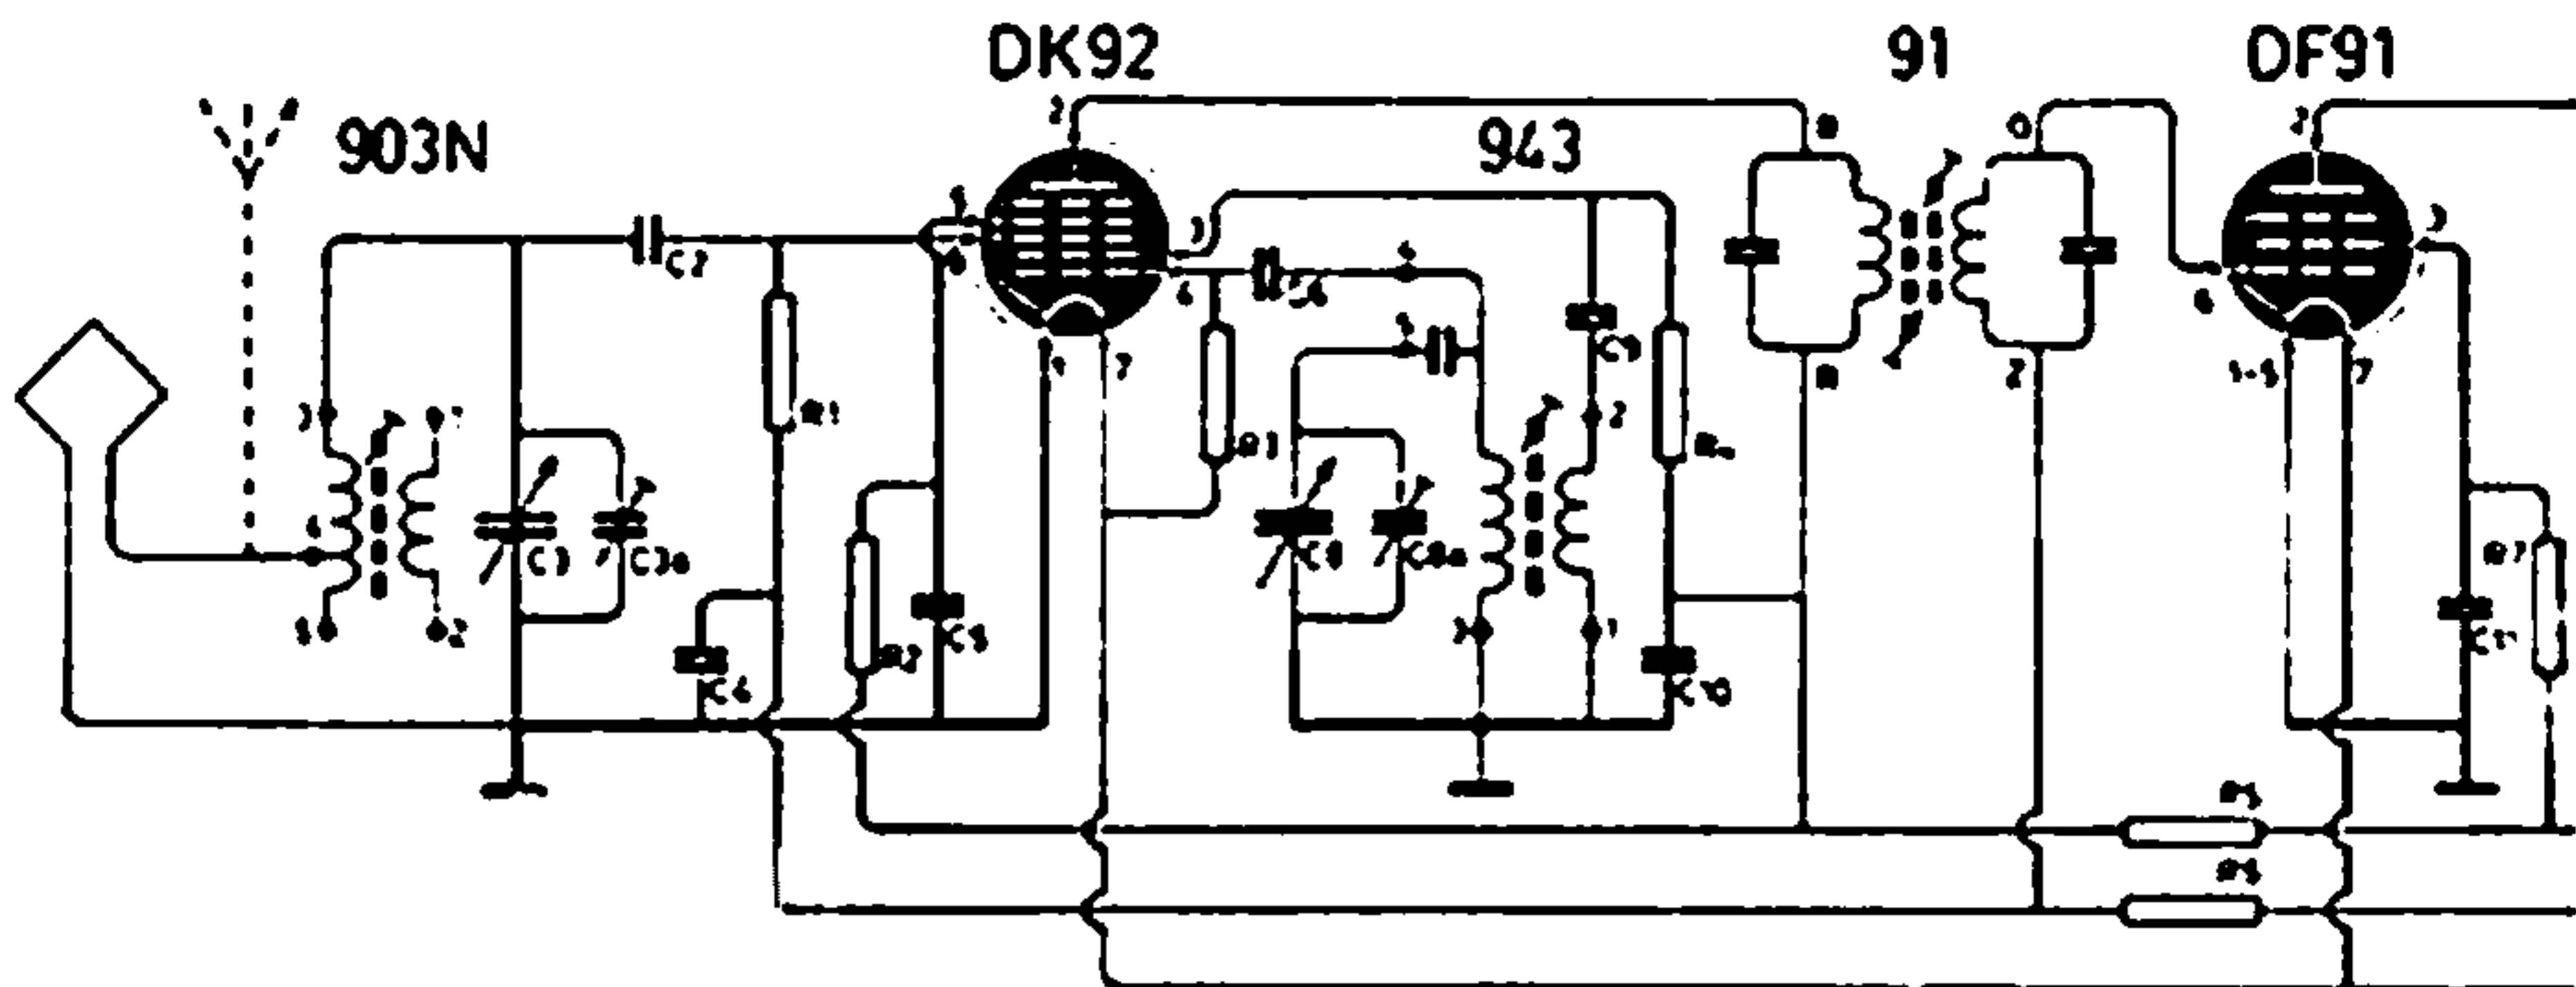

FIG. 1
- Fig. 1 - SCHAKELING VAN DE ZEPHYR-II**